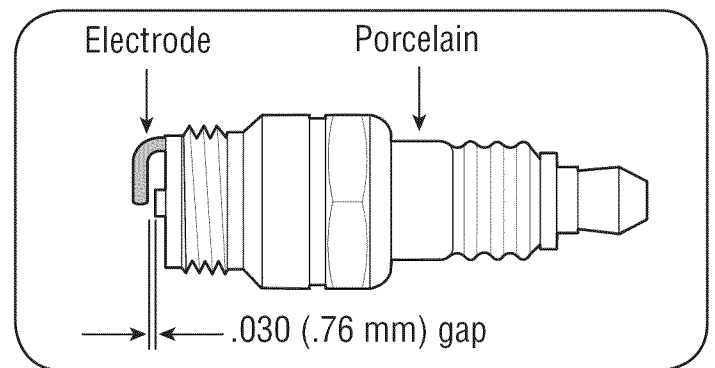

Figure 11
- Remove and inspect the spark plug. Check gap to make sure it is set at .030". See Figure 11.